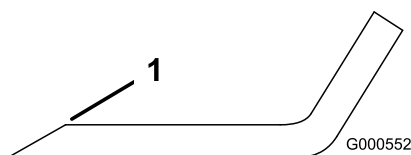

Figure 76
1. Use a file to sharpen the cutting edge at both ends of the blade (Figure 76).
Note: If the blade is not balanced, file some metal off the end of the sail area only (Figure 76).